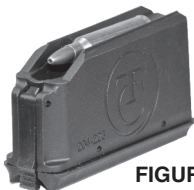

FIGURE 17
- Remove the magazine from the rifle in order to load the cartridges into it. Insert the cartridges into the magazine as shown (FIGURE 17).